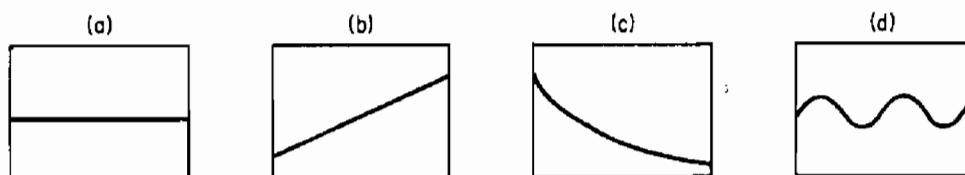

Figure SA32.Q1-4
4. Which of the following plots in Figure SA32.Q1–4 of response vs. time are not transient-state processes?